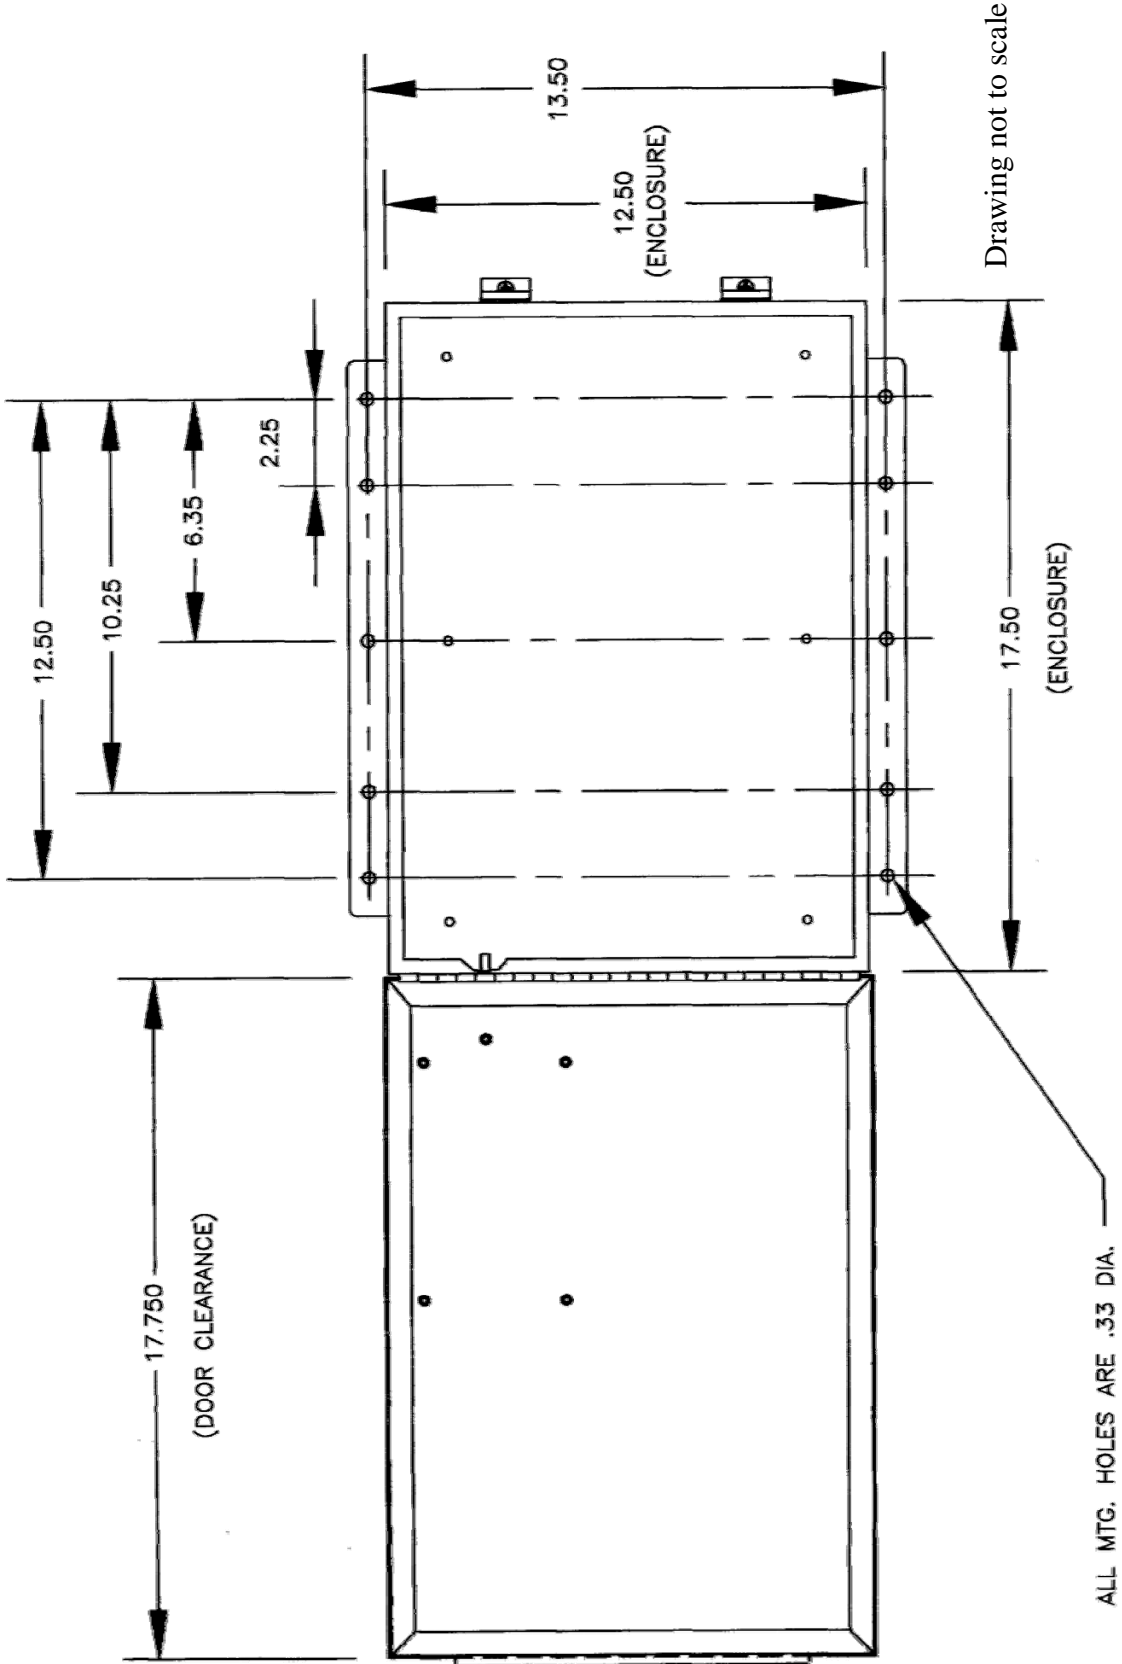

Figure 4.2 Receiver Mounting Details
See Figure 4-2. Receiver Mounting Details. Allow room in mounting the receiver for the door to swing open.
Mount receiver unit cabinet securely to mounting surface. Actual cabinet mounting dimensions are shown on Figure 4-2. Receiver Mounting Details.
2. Position the receiver. Locate as far as possible from exposed trolley wire and sources of electromagnetic or radiated noise. Cabinet mounting dimensions and mounting template is on next page (see Figure 4-2. Receiver Mounting Details). Antenna should be kept as clear as possible of any metal object.